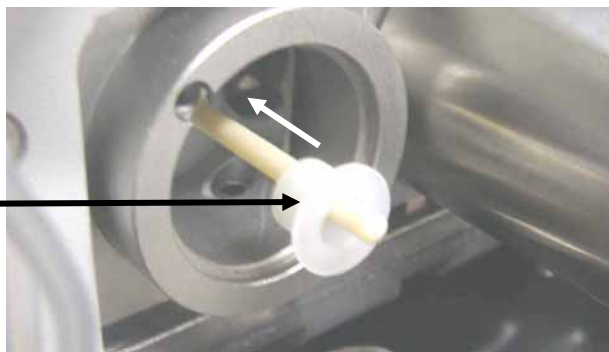

Fig. 52: Correct orientation of the bushing with draining device
- Slide the bushing with the draining device (→ Fig. 44, no. 3) onto the shaft. Make sure the orientation is correct (→ Fig. 52).